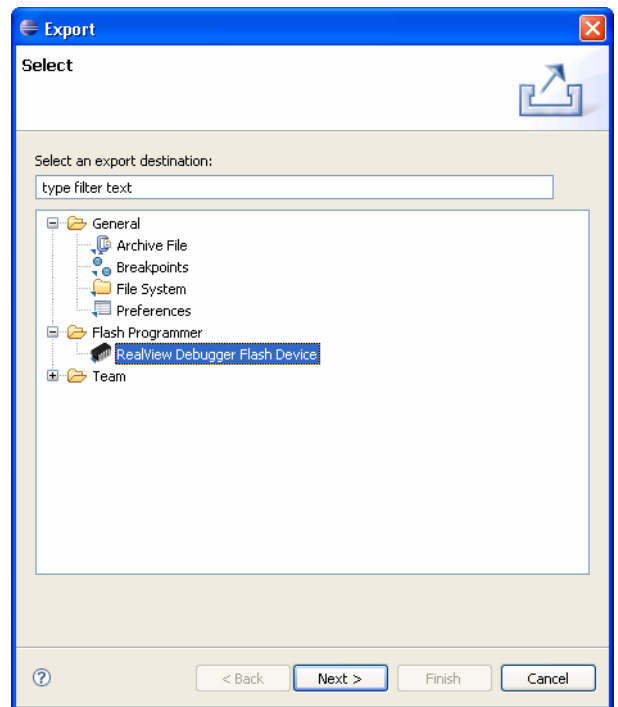

Figure 12 The Export Wizard
1. Select **File** → **Export...** from the Eclipse main menu. The **Export** wizard opens (see Figure 12 on page 19).